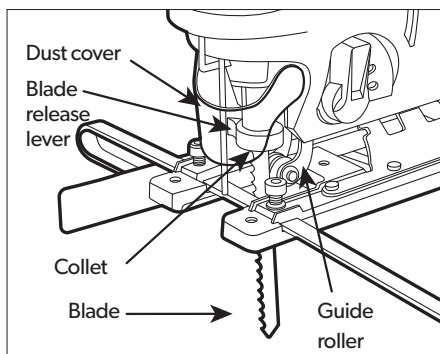

Figure 1
2. Once the proper blade (sold separately) is selected, lift the Dust Cover up to access the Blade Release Lever. See Figure 1, right.